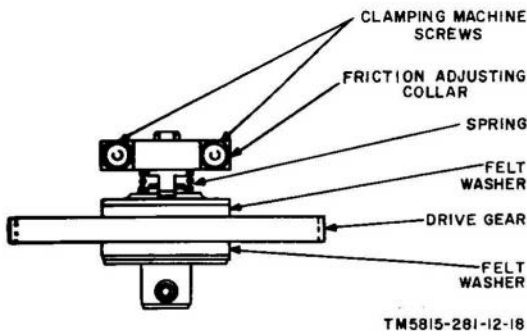

Figure 18. Friction clutch adjustment.
25. Friction Clutch Adjustment (fig. 18)